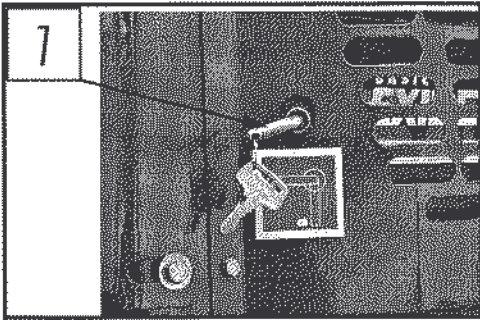

Figure 9-1. Main switch
1. Switch on the current from main switch 1 (figure 9-1). The main ignition key can be removed even when current is on.